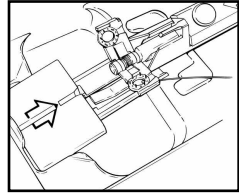

Figure 4
5. Remove FLOW COUPLER from tray and protective cover, being careful not to pull the wire (See Figure 4).